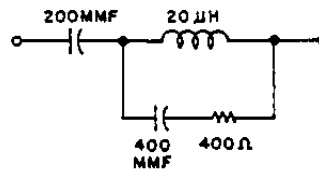

Fig. 4. RTMA Dummy Antenna
4. Standard RTMA dummy antenna shown in Fig. 4.